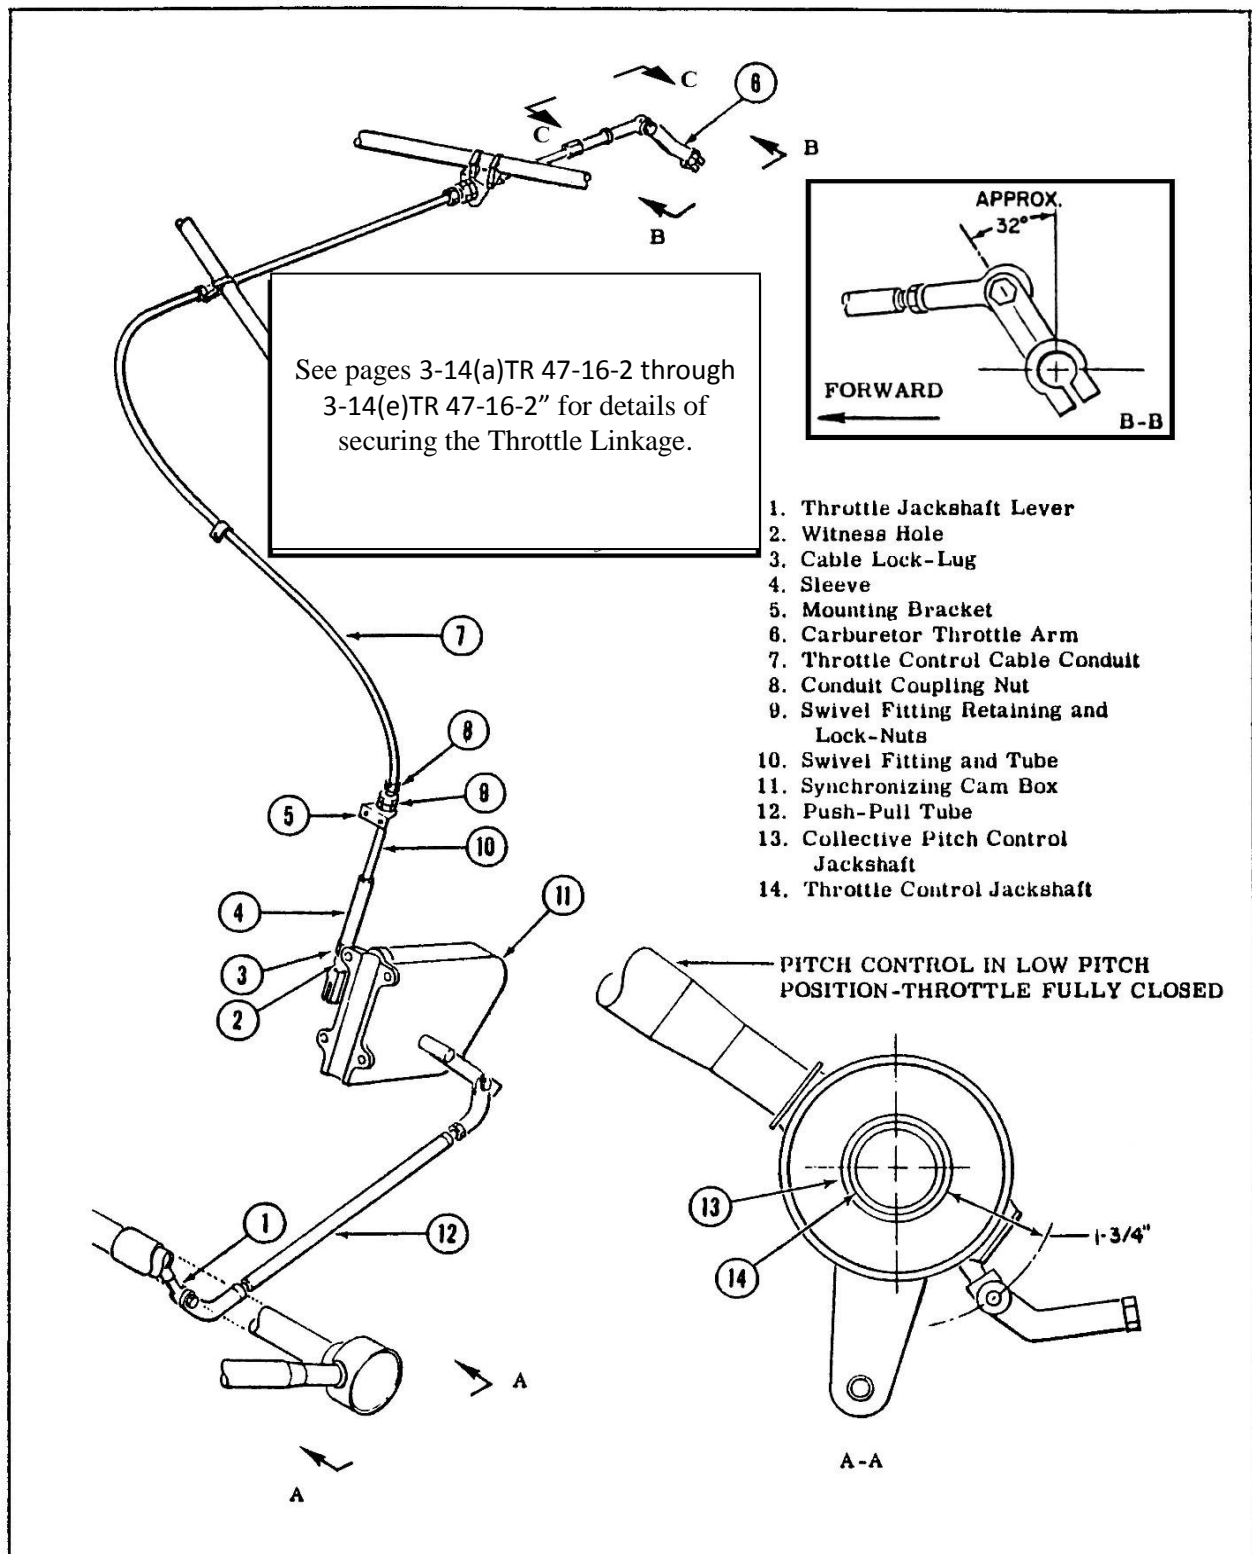

Figure 3-13. Adjusting Throttle Linkage
- Ensure that Throttle Arm is clocked as described in Paragraph 3-42(a) and as shown in Figure 3-13 while Carburetor Stop Arm remains firmly set against the Idle Stop Screw.